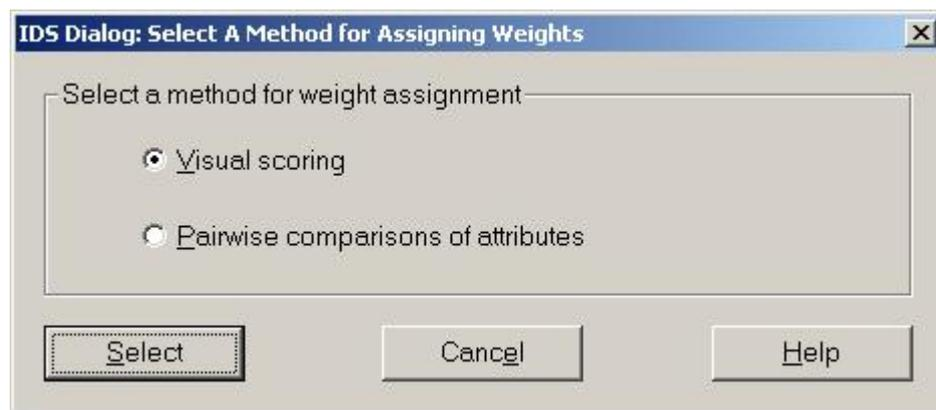
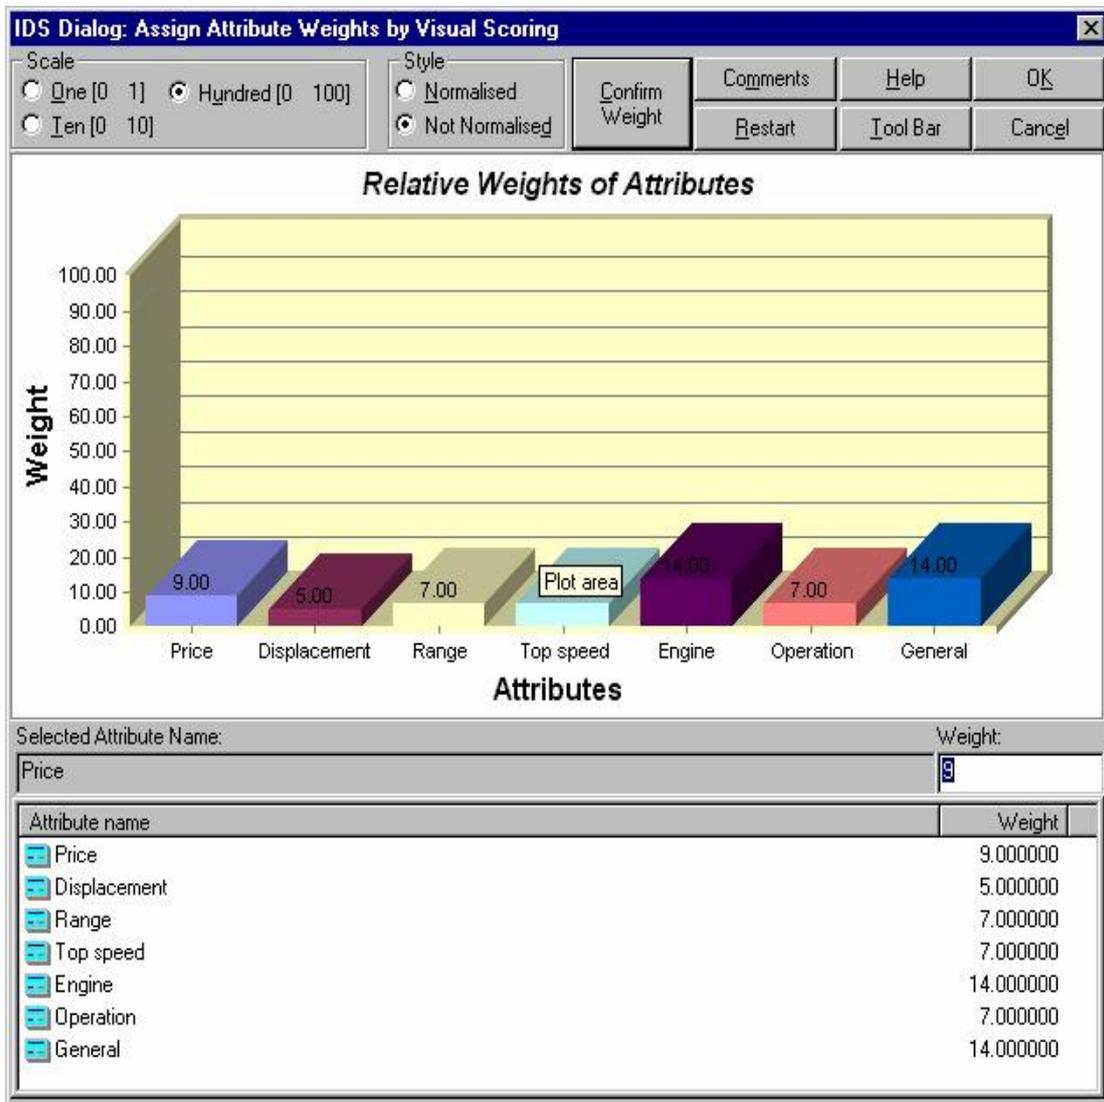
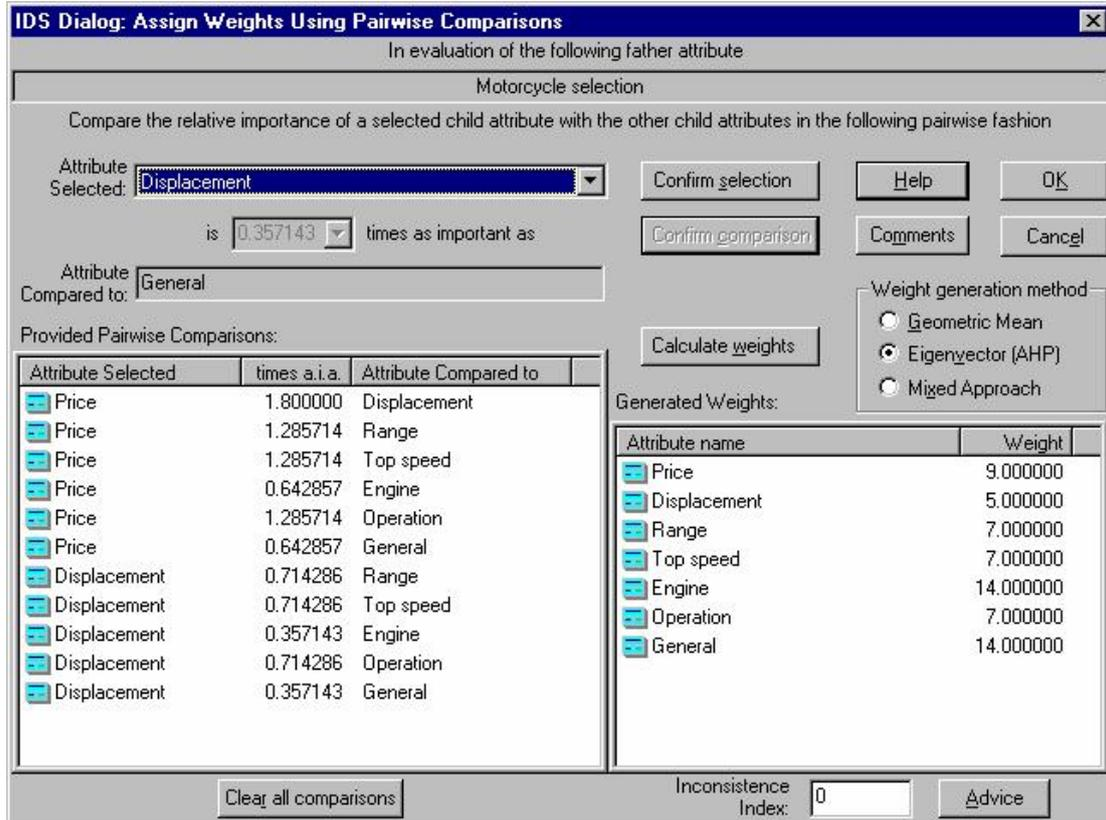

Figure 3.1 Select A Method for Assigning Weight
Figure 3.2 Assigning Attribute Weights by Visual Scoring
Figure 3.3 Assigning Attribute Weights by Pairwise Comparison
- (2) Click the shortcut icon  (the w here stands for Weight) from the toolbar of the IDS main window, and then the *Visual Scoring* radio button and the *Select* button on the *IDS Dialog: Select A Method for Assigning Weights* (**Figure 3.1**). Alternatively, from *Modelling* menu of the IDS main window select *Estimate Weight* and then select *Visual Scoring*. This will invoke the dialog window shown in **Figure 3.2**.
- (3) In the dialog window shown in **Figure 3.2**, the weight of each attribute in the group is displayed graphically. The relative importance of each attribute is represented by the height of its column. To change the weight of an attribute, you can use a computer mouse to drag the top edge of its column up and down until it reaches the desired height. During the dragging process, the weights are displayed at the top of each column dynamically.
At the bottom of the window (**Figure 3.2**), there is also a list view to list all attributes in a group and their weights. By clicking on any of the attribute name in the list, you can type in a weight value from the edit box just above the list. This is
- (4) When you are happy with weights assigned to all attributes in a group, you can click on the *Confirm Weights* button to accept the assigned weights. If you are not happy with all the changes you have made since last time you have pressed the *Confirm Weights* button or from when the window shown in Figure 3.2 was invoked, then you can press the *Restart* button to start from the previous weight setting again until you are happy with the new setting.
Dialog: Select A Method for Assigning Weights (**Figure 3.1**). Alternatively, from the Modelling menu of the IDS main window select *Estimate Weight* and then *Pairwise Comparison*. This will activate the dialog window similar to **Figure 3.3**.
- (3) In the dialog window shown in **Figure 3.3**, from the *Attribute Selected* drop down list, select an attribute (*Displacement* in the example of **Figure 3.3**) and then press the *Confirm selection* button. As soon as the button is pressed, the *Confirm comparison* button is enabled and so does the ratio drop down list on the left side of the *Confirm comparison* button. The ratio 0.357143 in the example of **Figure 3.3** can be edited and indicates that *Displacement* is 0.357143 times as important as the *General* attribute. *General* is the attribute name shown below the ratio drop down list in the field *Attribute Compared to*. If you are happy with the ratio displayed in the ratio drop down list, you should click the *Confirm comparison* button to save the change and move to the next pairwise comparison. The attribute name in the *Attribute Compared to* field changes each time you press the *Confirm comparison* button until all attributes in the group have been compared with *Displacement* once. When it is done, the results will be added to the list displayed in the left bottom pane of the window (**Figure 3.3**). Next, you may choose another attribute from the *Attribute Selected* drop down list and repeat the above process until all possible pairs in the group are compared. In total there are $(N^2 - N)/2$ possible pairs.
If you provide only minimum information, IDS will work out the relative importance of all the pairs. If you provide more information than minimum, then IDS will use the redundant information for consistency test. The inconsistency index is displayed at the bottom on the same window (**Figure 3.3**). More information about the inconsistency index is discussed below.
- (4) The results for the compared pairs are listed in the left bottom pane of the window shown in **Figure 3.3**. If you are not happy with any of the results, you can use the process stated above to make changes. Once you are happy with the comparison, you can click the *Calculate weights* button. The calculated weights are displayed in the bottom right pane of the window shown in **Figure 3.3**.